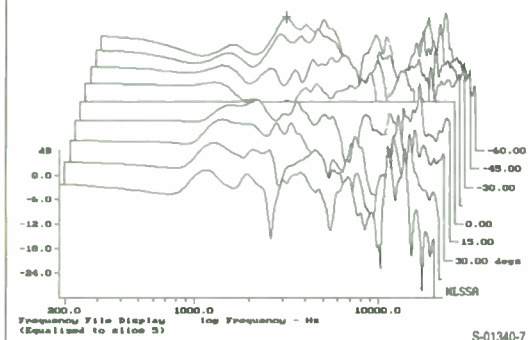
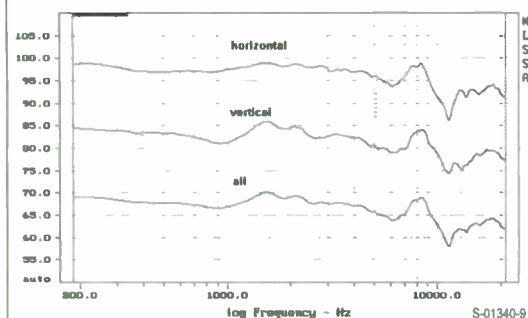

FIGURE 7: Polar response—horizontal position.
FIGURE 9: Power responses.
Figure 7 is a waterfall plot of polar response in horizontal orientation taken in 15° increments from 60° left to 60° right when facing the speaker. Frankly, these curves are a nightmare! The odd placement of drivers coupled with the deeply recessed baffle causes all kinds of diffraction and interference problems. Direct-field spectral balance will change markedly as one moves off-axis.
In this regard, Figs. 7 and 8 may present an unfair view of the rebuilt AR-3a's performance. The original AR-3 was designed for uniform power response. In semireverberant rooms, power response is a good measure of perceived
Figure 9 shows three different averages. The "horizontal" and "vertical" curves are averages of the data shown in Figs. 7 and 8, respectively. The "all" curve averages both. All averages fall within a ± 2.5 dB envelope out to 9kHz. In this range, power response is quite acceptable. Above 10kHz response shelves down about 5dB.
3. I believe the strong response variations off-axis (*Figs. 7* and *8*) are responsible for the "megaphone-like" tubbiness and blurring I heard. Regarding *Fig. 9*, the integrated power responses, these are good except for the 8kHz—and up—region. However, I believe the ear is discriminatory enough to sense the various off-axis anomalies (*Figs. 7* and *8*) arriving from different reflected directions, even though they may result in a smooth response when integrated in the measurement.
Figures 7 and 8: What a mess! But that's what you get with a recessed baffle, sharp corners, and so on. And, presumably, why the response curves of the drivers AR published didn't come from the domes installed in the box, but in a big baffle, and why AR made a point of power response. I await another hideous set of curves when a stock AR-3a is tested.